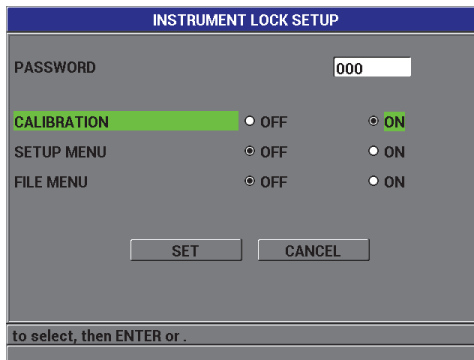

Figure 5-11 The INSTRUMENT LOCK SETUP screen
2. In the **INSTRUMENT LOCK SETUP** screen (see Figure 5-11 on page 101), enter the password in the **PASSWORD** field (if a password was set), and then lock or unlock as follows: